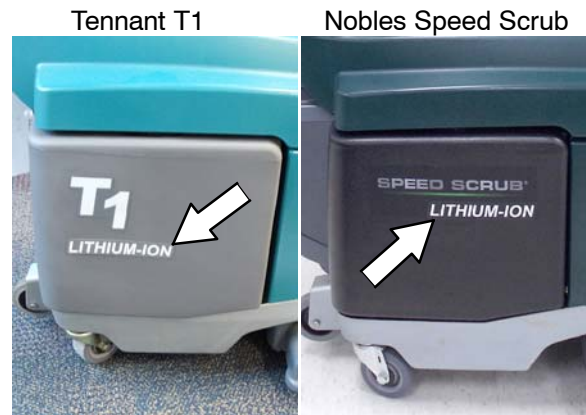

Fig. 13
- Remove the "Lithium-ion" labels from machine (Figure 13).